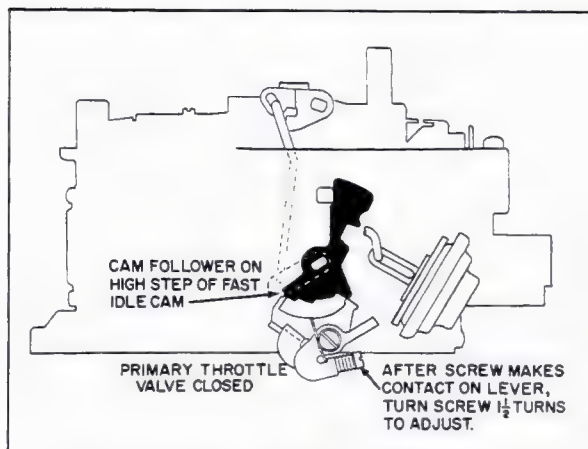

Fig. 6-77 Fast Idle Adjustment
### 80. Bench Fast Idle Adjustment (Fig. 6-77)
1. With primary throttle valves completely closed and cam follower over high step of fast idle cam, turn fast idle screw in one and one-half turns after screw makes contact on lever, Fig. 6-77.